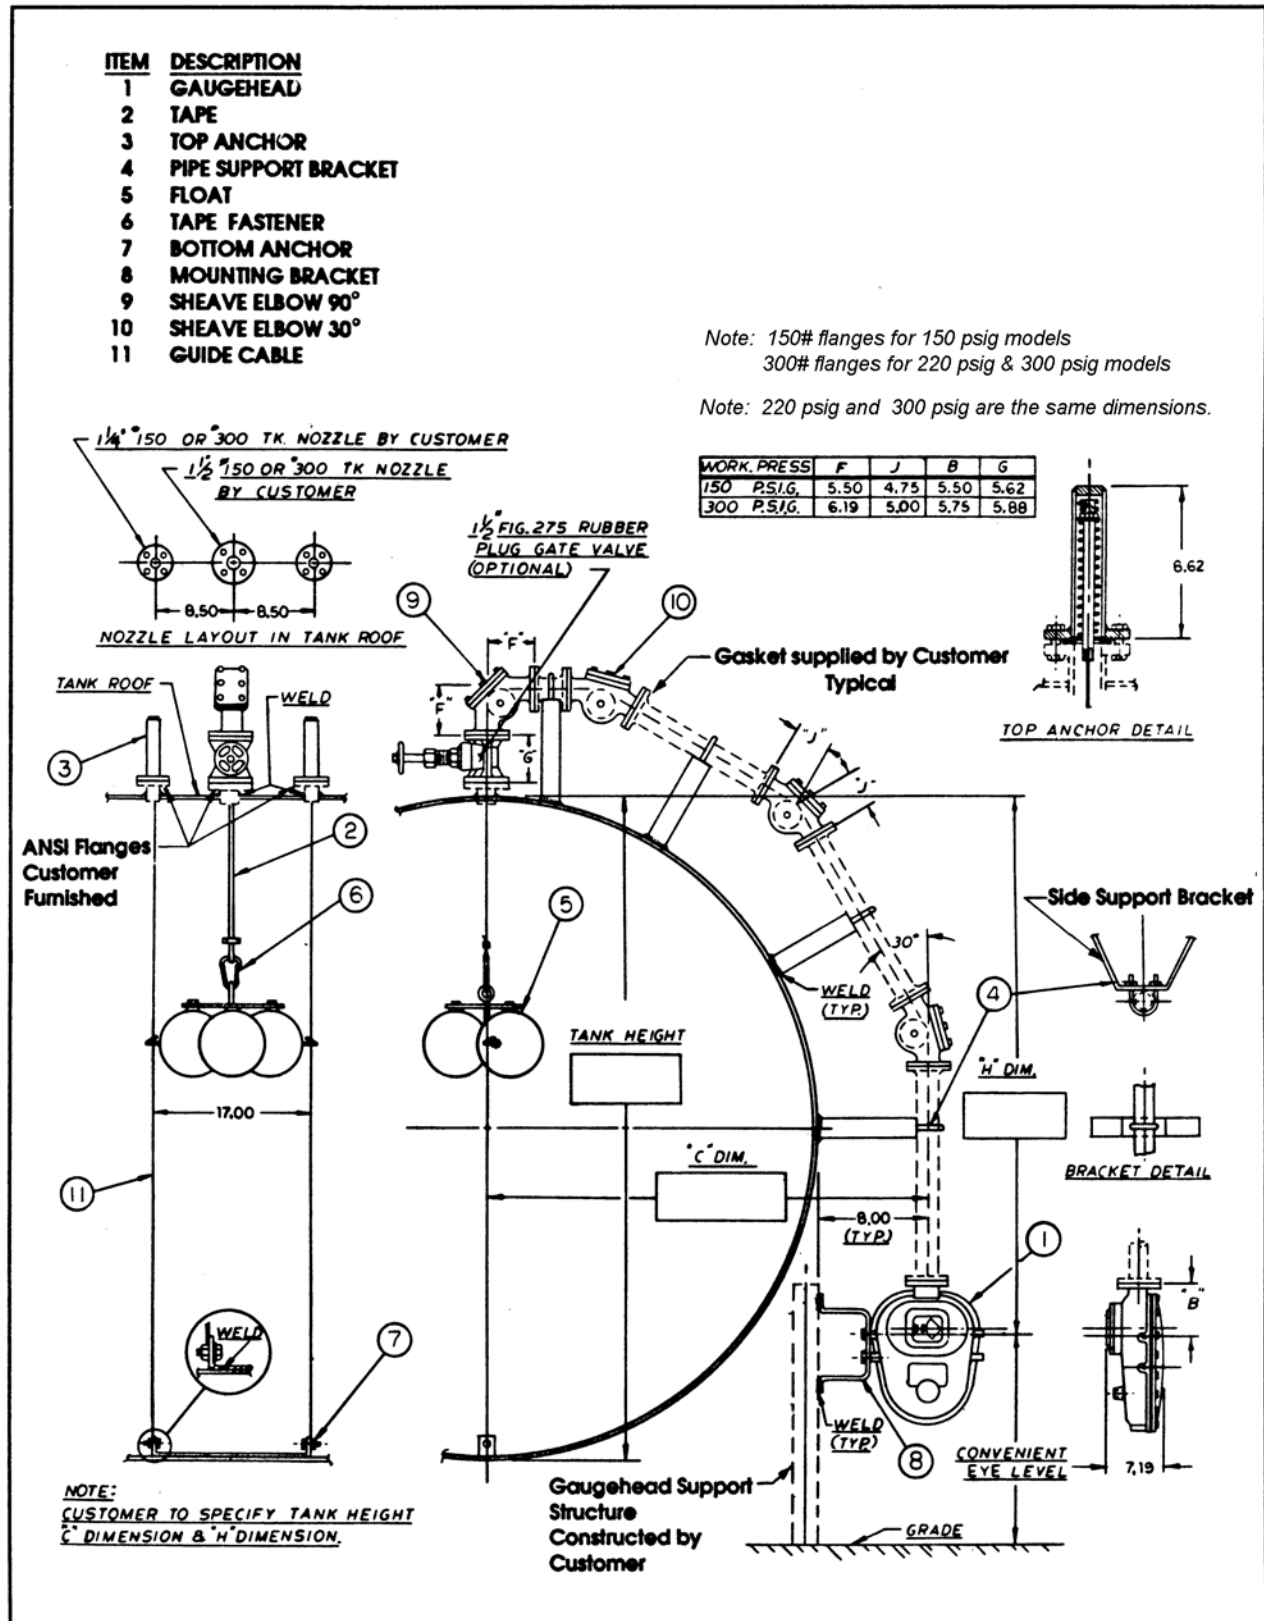

Figure 3-9: Typical Grade Level Installation for Spheres to 60 Feet Diameter
For spheres and cylinders to 60 feet diameter with the gaugehead located on the side, near grade level see Figure 3-9 on page 31 for feature/option installation kit codes N2520 01 T04, N2520 02 T04, N2520 03 T08, N2520 04 T08, N2520 05 T08, and N2520 06 T08. Refer to Table 8-1, Table 8-2, and Table 8-3 on pages 57 and 58 for details.
2. Provide the roof holes shown in the Figure 3-9 on page 31, centered on this position. The guide cable holes are centered 8.50 inches (216 mm), each side of the center of the cluster of floats. The tape pipe is centered on a 17.00 inch (432 mm) diameter. The plug valve is also centered on this dimension.
Figure 3-9 shows a typical grade level installation for spheres to 60 feet in diameter.